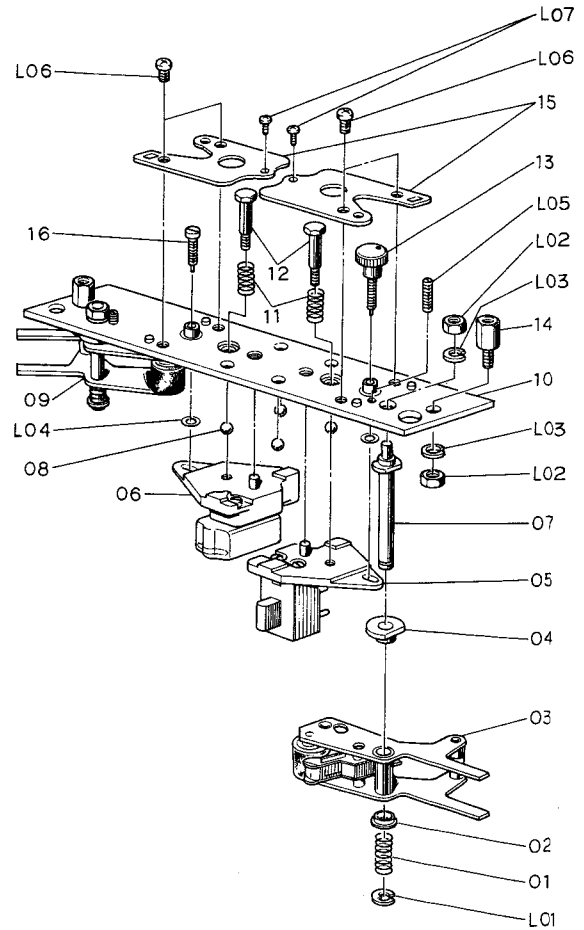
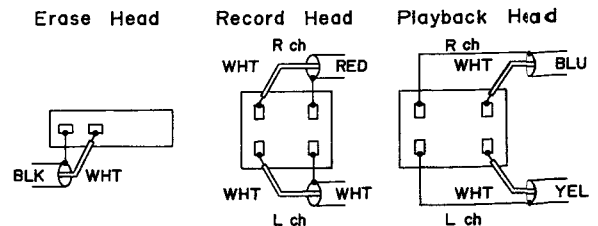

Fig. 6.9. Head Replacement
Fig. 6.10 Wiring of Heads (Rear View)
- (1) Referring to Fig. 6.9, unfasten screws and springs (12,11) then remove record head (05) and playback head (06) with care not to lose washers or steel balls (L04,08).
- (2) Disassemble E-ring, spring and collar (L01,01,02), then remove supply pressure roller arm ass'y (03).
- (3) Remove erase head from supply pressure roller arm ass'y (03).
- (4) Referring to Fig. 6.10. disconnect signal wires then replace each head.
- (5) Fasten screws (12 in Fig. 6.9) of playback and record heads, insuring to keep correct direction, vertically against to the cassette tape.
- (6) Fasten a screw fixing an erase head to the chassis of the supply pressure roller arm ass'y without any dust, and pushing erase head toward the pressure roller insuring to keep more than 0.1 mm space. Then apply a drip of lock tight paint to the screw. Check to insure signal wires are not in contact with the chassis.